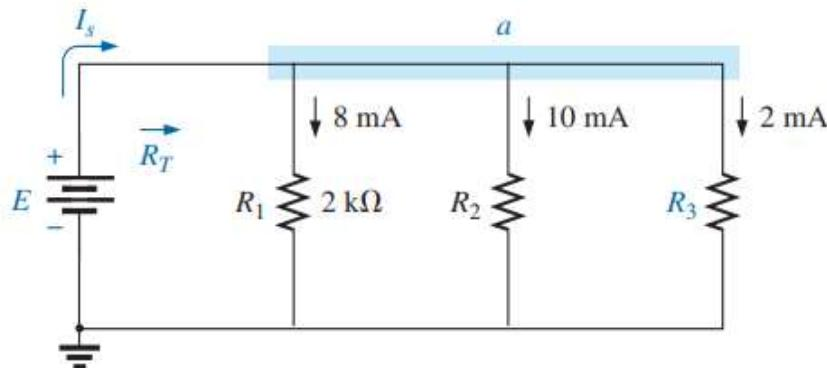

FIG. 6.35
EXAMPLE 6.19 For the parallel dc network in Fig. 6.35:
- First apply Eq. (6.13) at node a . Although node a in Fig. 6.35 may not initially appear as a single junction, it can be redrawn as shown in Fig. 6.36, where it is clearly a common point for all the branches.